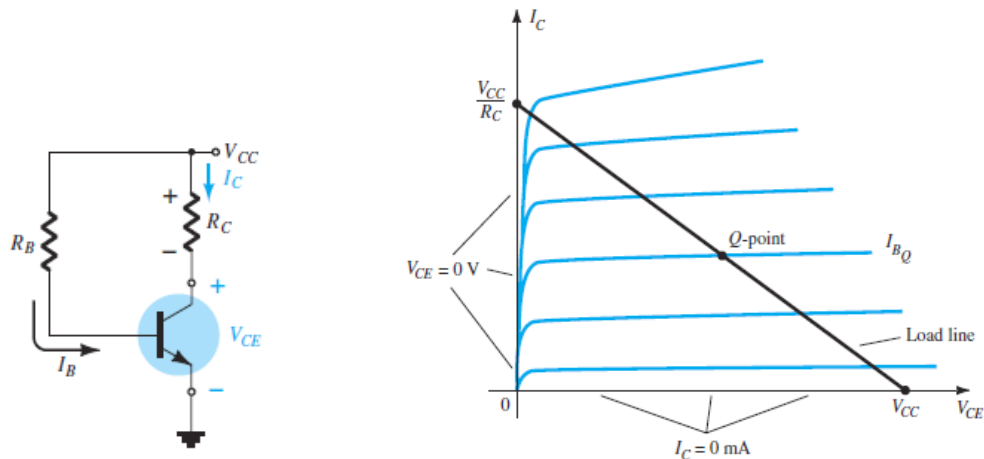

Fig 16 Load line analysis
- **Operating point:** Consider the common emitter circuit as shown below. The transistor EB junction is forward biased by external dc voltage V_{BB} and CB junction is reverse biased by V_{CC} . When the signal is zero, there exists dc collector current I_C and the output voltage V_{CE} . Consider the common emitter circuit as shown in Fig 16.